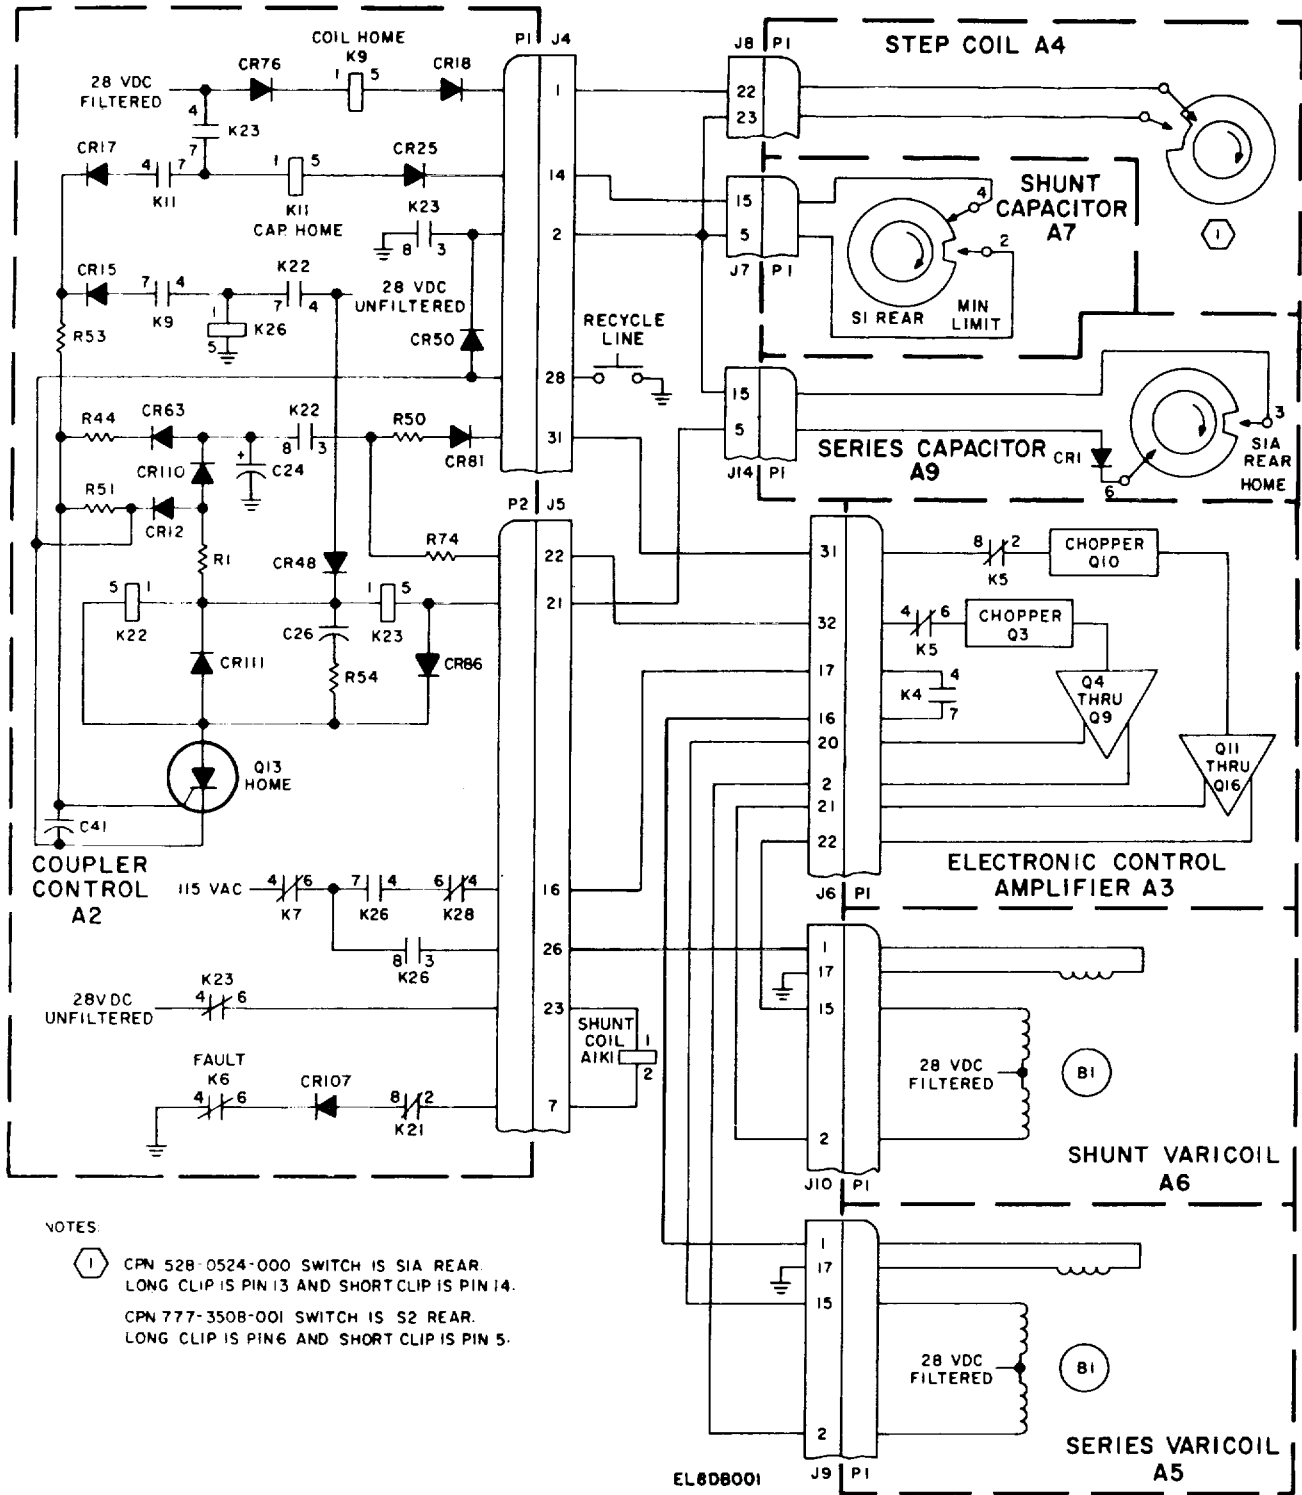

Figure 2-3. Horning Control Circuits, Simplified Schematic Diagram.
(fig. 2-3)
b. The ground on the recycle line appears on the cathode of A2Q13 (fig. 2-3). Silicon-controlled rectifier A2Q13 is enabled by +28 vdc (unfiltered) on the anode and gate and will conduct, operating A2K22 and A2K23. A holding ground is applied to the cathode of A2Q13 through A2K23-8 and -3, and enabling voltage is supplied to the gate until the variable elements are in the *home* position. When all elements are *home*, the enabling voltage is removed from the gate; and, as the anode voltage passes through zero reference level, A2Q13 will cut off, restoring A2K22 and A2K23. Gate enabling voltage is furnished to the gate of A2Q13 when step coil A4 and/or shunt capacitor A7 are not in the *home* position.